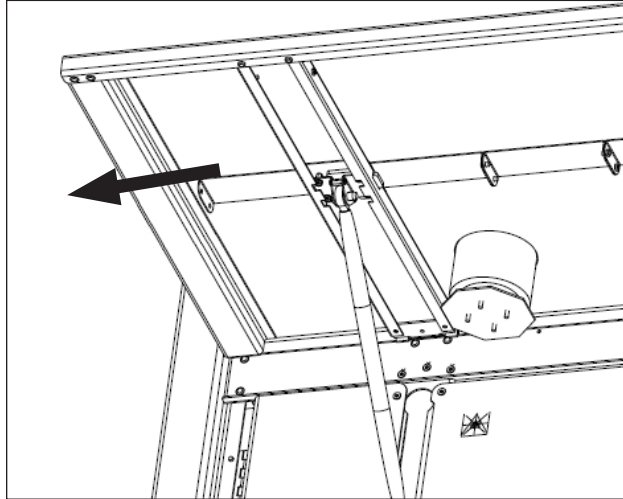

Figure 29: Tabletop Release Handle
3. Pull the tabletop release handle toward the outer edge, and gently lower the tabletop into the dropped position. Refer to **Figure 29**.